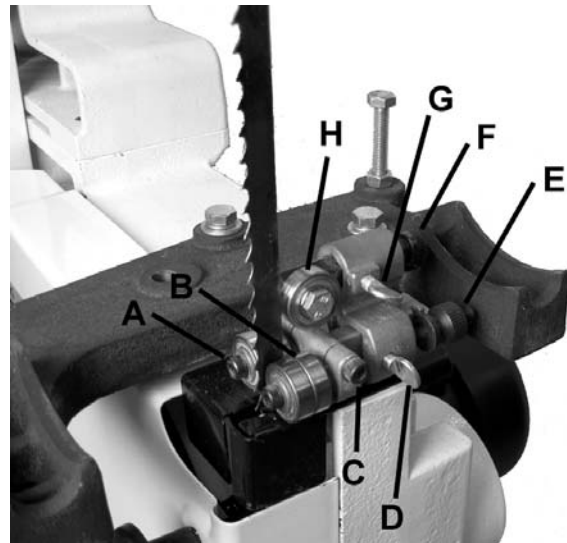

Figure 12
3. Loosen thumb screw (G, Fig. 12) and turn knurled knob (F, Fig. 12) to move the thrust bearing (H, Fig. 12) in or out until the bearing is 1/64" behind the blade.
4. Tighten thumb screw (G, Fig. 12).
5. Loosen thumb screw (D, Fig. 12) and turn knurled knob (E, Fig. 12) to move the guide block bracket in or out until the front edge of the guide bearings are just behind the "gullets" of the saw teeth.
6. Tighten thumb screw (D, Fig. 12).
7. Loosen lock bolt (C, Fig. 12) and rotate guide bearings (B, Fig. 12) using cam (A, Fig 12) with provided 4mm hex wrench as close to blade as possible without pinching it.
8. Tighten lock bolt (C, Fig. 12).